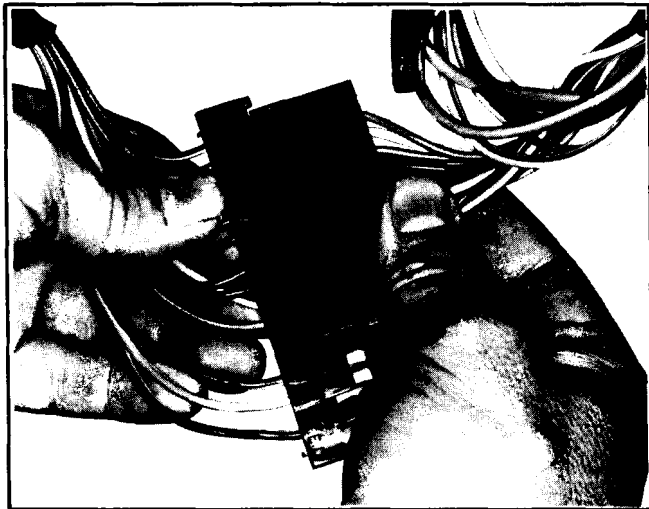

Fig. 12-10 Check Harmonica Connector on Column
2. Check for secure connection at the chassis switch connector. This is the harmonica connector on the column. (Figure 12-10) Secure if loose. Check all individual wire terminals for proper seating in the connector bodies. Terminals should be locked in place.